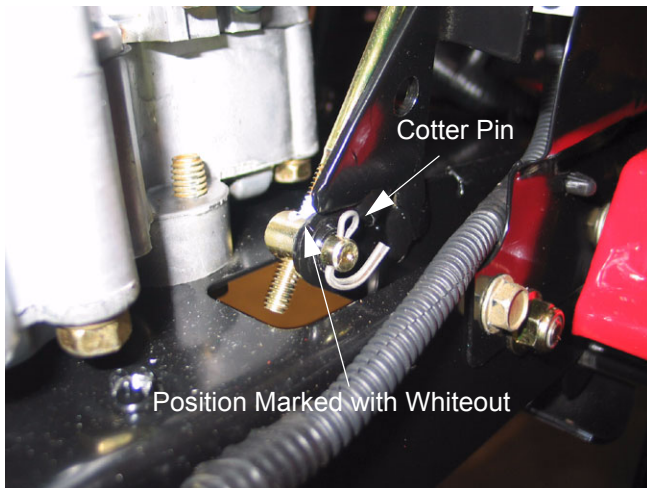

Figure 69
18.1. Remove the cotter pin securing the speed control selector rod to the speed control latch. Slide the ferrule from the latch. See Figure 69.